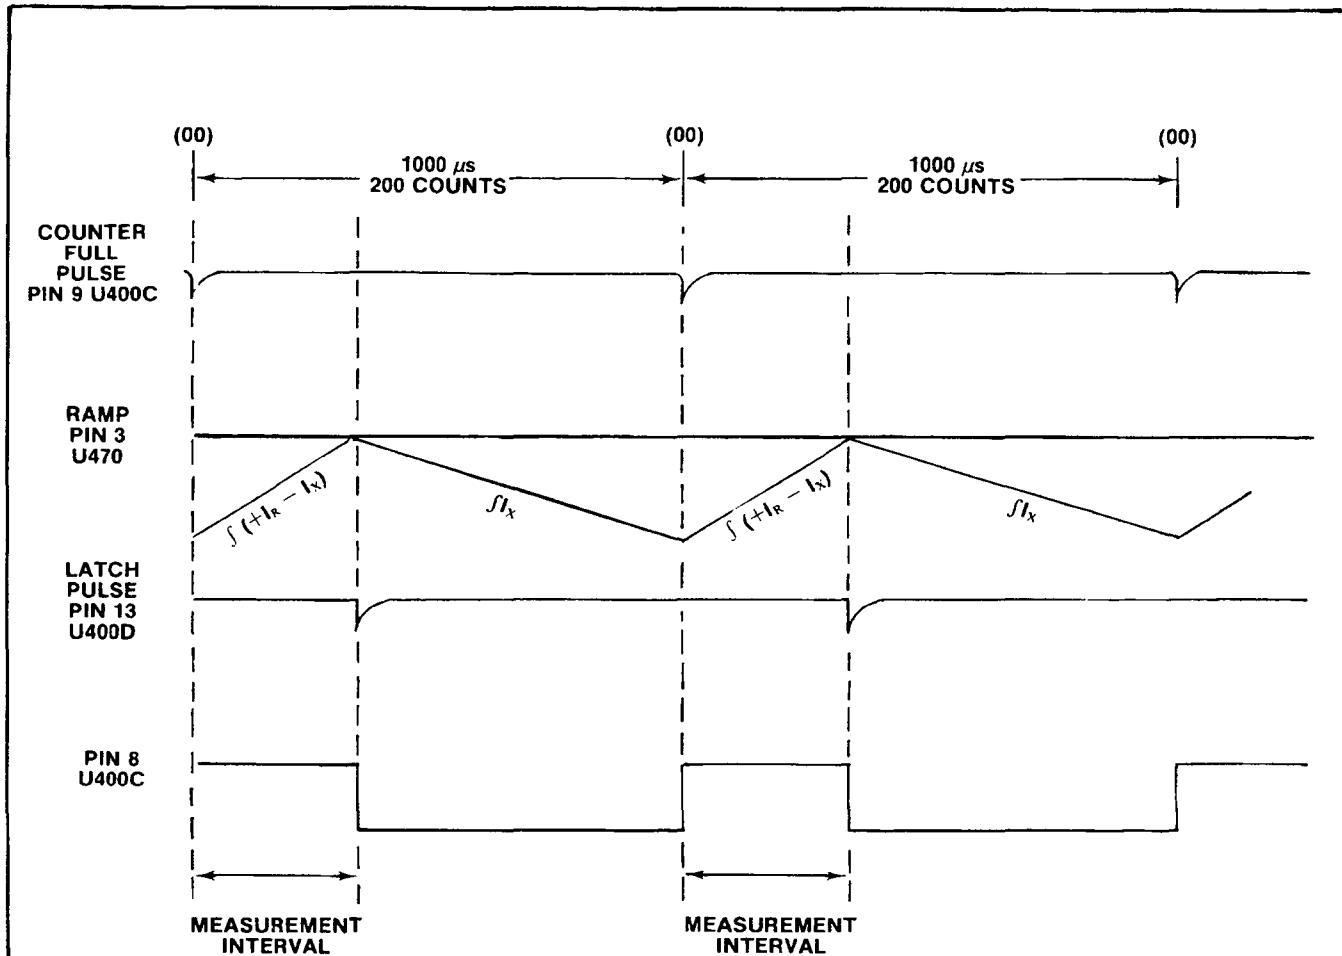

Fig. 2-1. DVM timing diagram for a negative input to the integrator U460.
The system contains two reference current sources; a $+I_r$ source from the collector of Q415, and a $-I_r$ source from the collector of Q440. Only one of these current sources is switched on at a given time, dependent on the polarity of the voltage change on the 100-volt bus. For a ramp that is negative, pin 5 of U400B is set to a high and pin 1 of U400A is set to a low. Pins 2 and 4 of these NAND gates connect to a common control line, and while the counter is counting up to a count of 200 (00), pin 8 of U400C is at a low level. During the first ramp period, the output levels of U400A and U400B are high and both reference current sources are cut off. See Fig. 2-1.